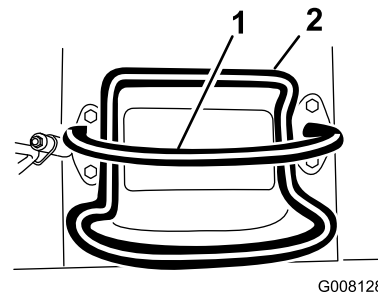

Figure 7
- To move rearward, move the traction control rearward (Figure 9). **When reversing, look behind for obstructions and keep your hands on the reference bar (Figure 7).**
- To stop, release the traction control (Figure 7).